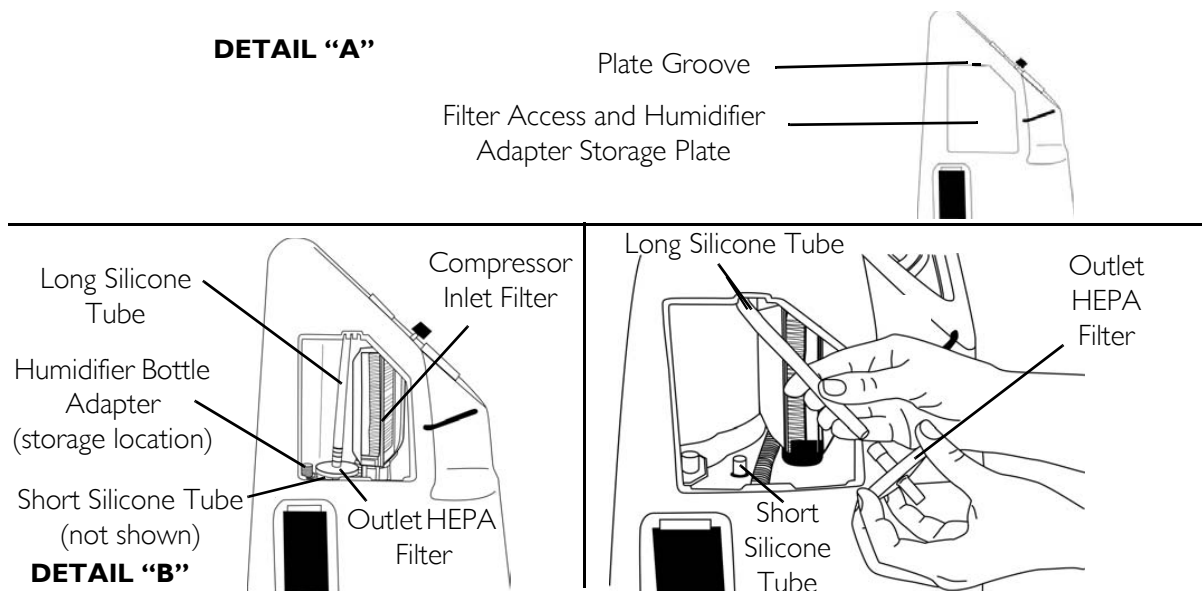
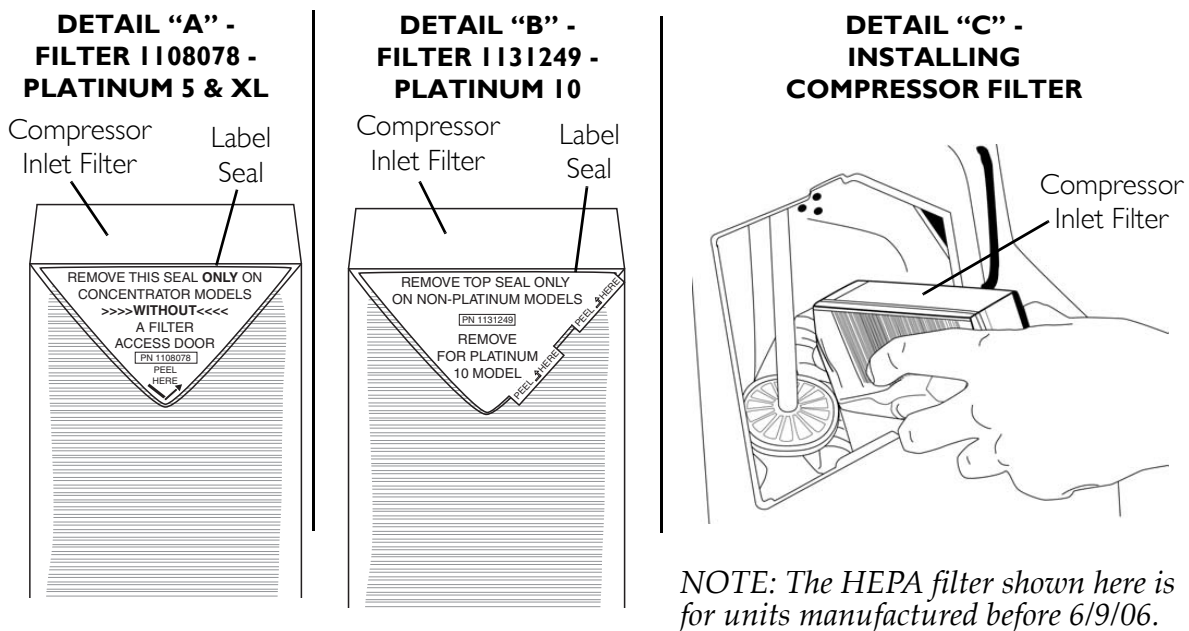

FIGURE 6.2 Replace the Outlet HEPA Filter before 06/09/06
FIGURE 6.4 Replacing the Compressor Inlet Filter
NOTE: For this procedure, refer to FIGURE 6.2.
NOTE: For this procedure, refer to FIGURE 6.2 on page 25 and FIGURE 6.4.
3. Insert a flathead screwdriver in the plate groove on the top edge of the plate and gently pry the humidifier adapter storage plate open to remove the plate. Refer to Detail "A" in FIGURE 6.2.
- For Platinum 5 and XL: Leave the entire label on p/n 1108078 (Detail "A" of FIGURE 6.4).
- For Platinum 10: Remove the lower half of the label on p/n 1131249 (Detail "B" of FIGURE 6.4).
8. Install new compressor inlet filter by inserting the filter opening into the rubber base (Detail "C" of FIGURE 6.4).